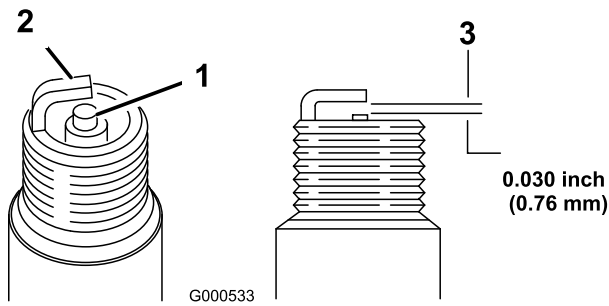

Figure 23
11. Set the gap on the plug to 0.030 inch (0.76 mm) (Figure 23).